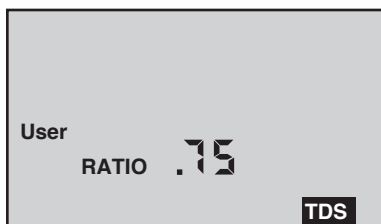

Figure 4
- b. Press  $\frac{\text{CAL}}{\text{MCLR}}$  twice (to skip over tempco adjustment) and "RATIO" will appear (see Figure 4).